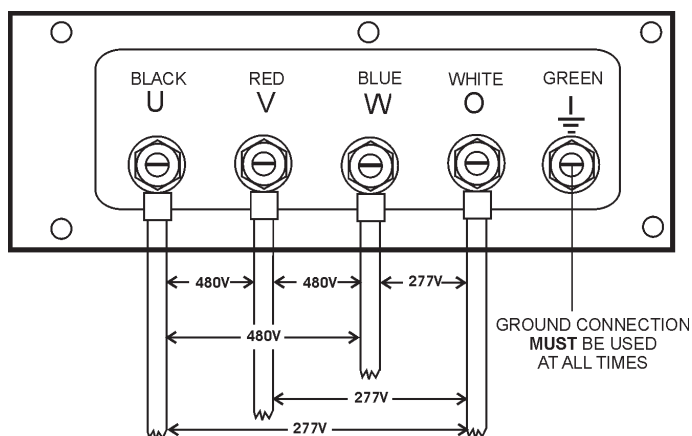

Figure 28. Output Terminal Lugs 3Ø 480/277V Connections
2. Connect the load wires to the **Output Terminal Lugs** as shown in Figure 28.